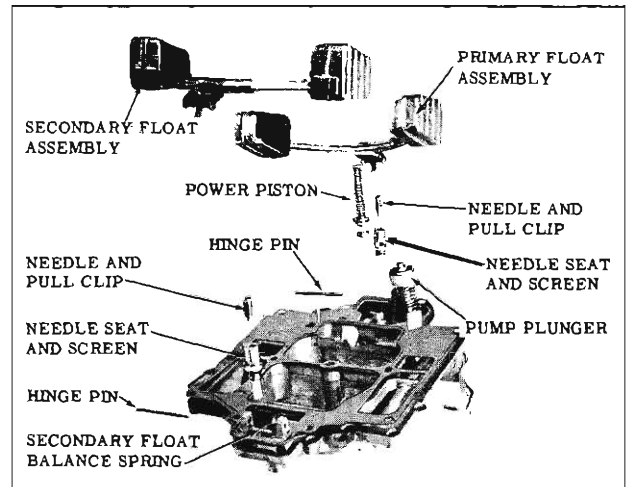

Fig. 4-154 Air Horn Assembly
Disassembly of Air Horn (Fig. 4-154)
10. Remove the hinge pin from the primary float assembly, and remove the float and needle. (Fig. 4-154) Do not remove the float balance spring unless it is distorted and needs replacement.